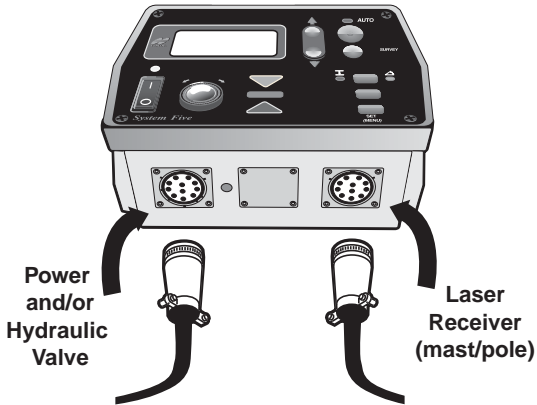

Figure 1-12. Connecting Cables to Control Box
7. Connect the cables to the Control Box (Figure 1-12).
2. Connect the cables to the Control Box (Figure 1-12). Then turn on the Control Box.